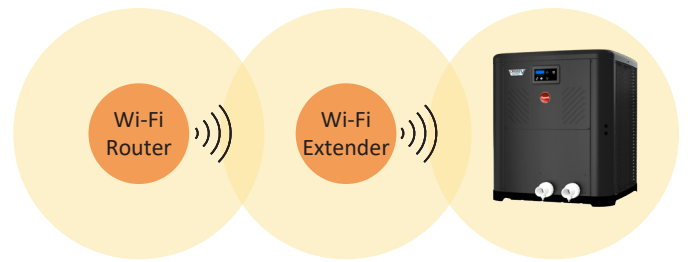

Figure 123. Wi-Fi Extender
- Add a Wi-Fi range extender to cover heater zone or enable a new Wi-Fi access point. See Figure 123.